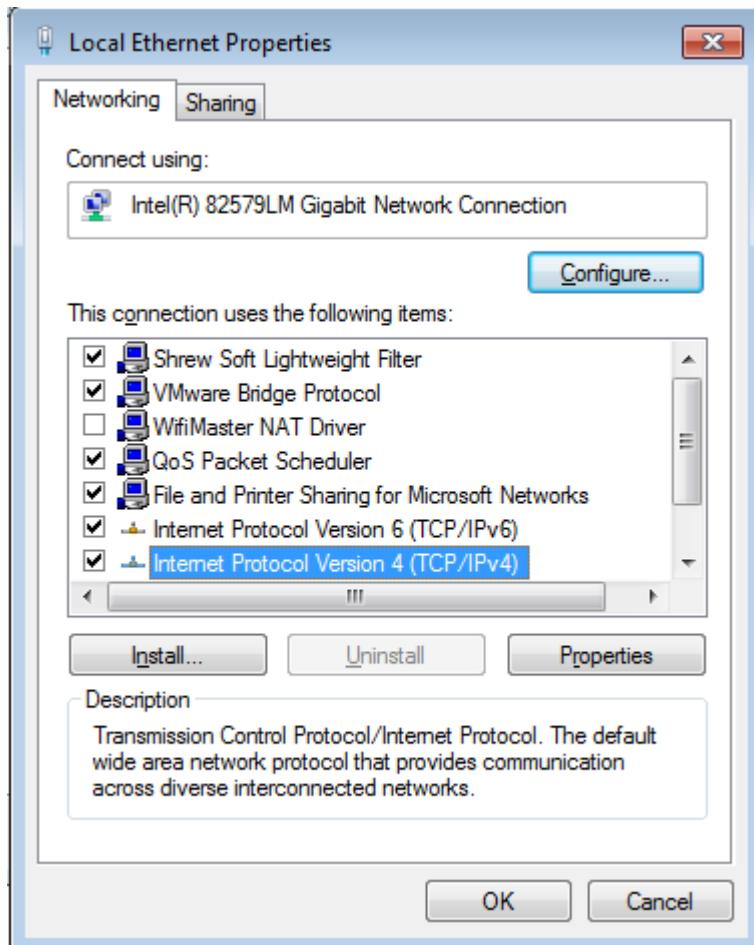

Figure 4-3 Internet Protocol (TCP/IPv4)
Step 3 Click Properties in the Local Connection Status window to open the Local Connection Properties window, as shown in Figure 4-3.